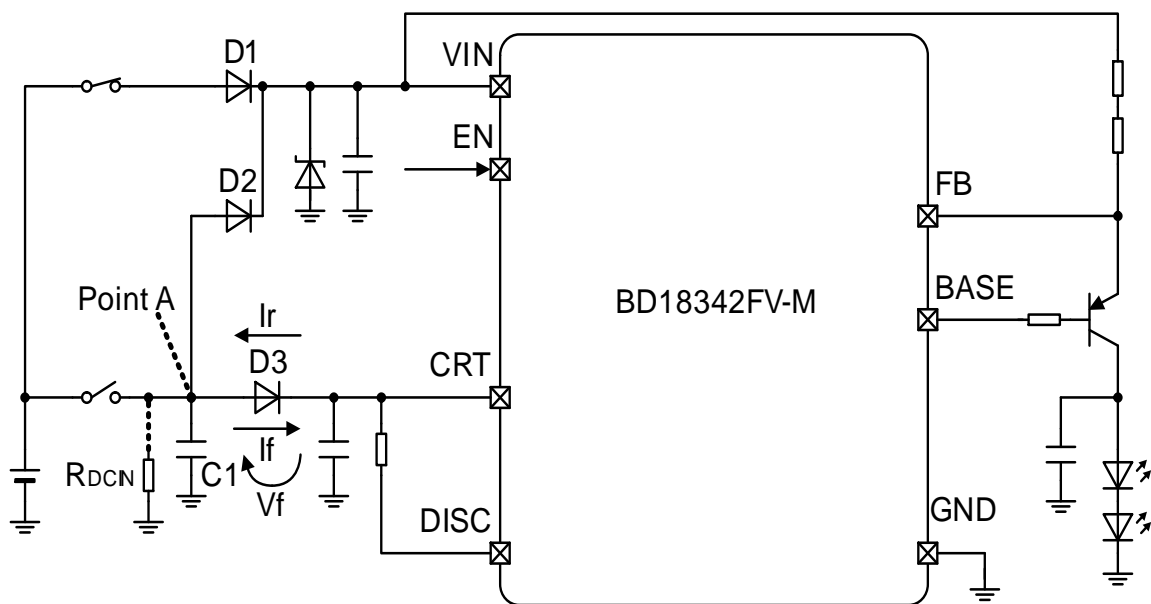

Figure 15. How Reverse Protection Diode Affects the CRT Pin Ramp Up/Down Time
① During the PWM dimming operation mode, Point A on Figure 15 is Hi-Z.